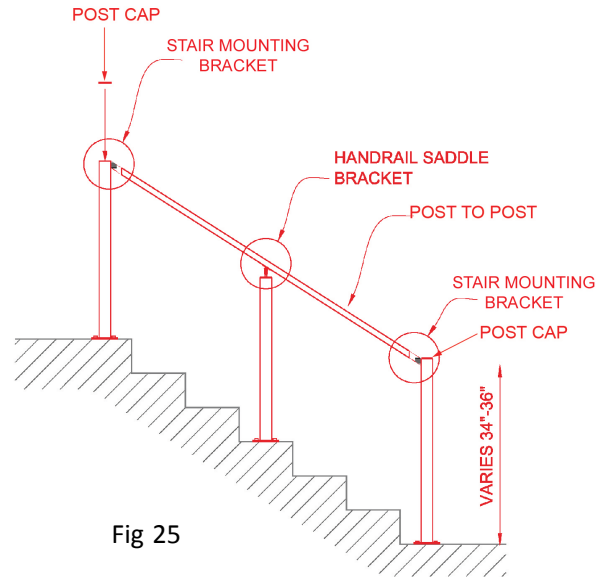
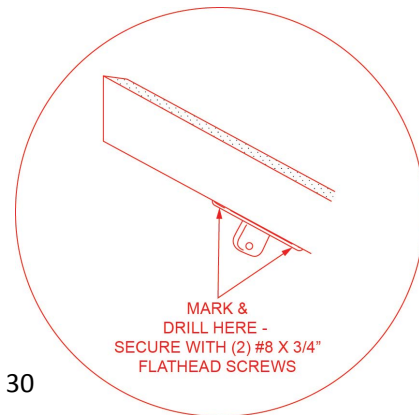

Fig 25
Fig 30
- Post-To-Post hand rail is often used as a standalone stair hand rail (Fig 25).
Unscrew and disassemble the upper portion of the bracket to make it easier to mark and drill holes. Drill 9/64" pilot holes in marked locations. Using the two screws that are provided, screw the bracket into place (Fig 30). Reassemble to finish (Fig 25).